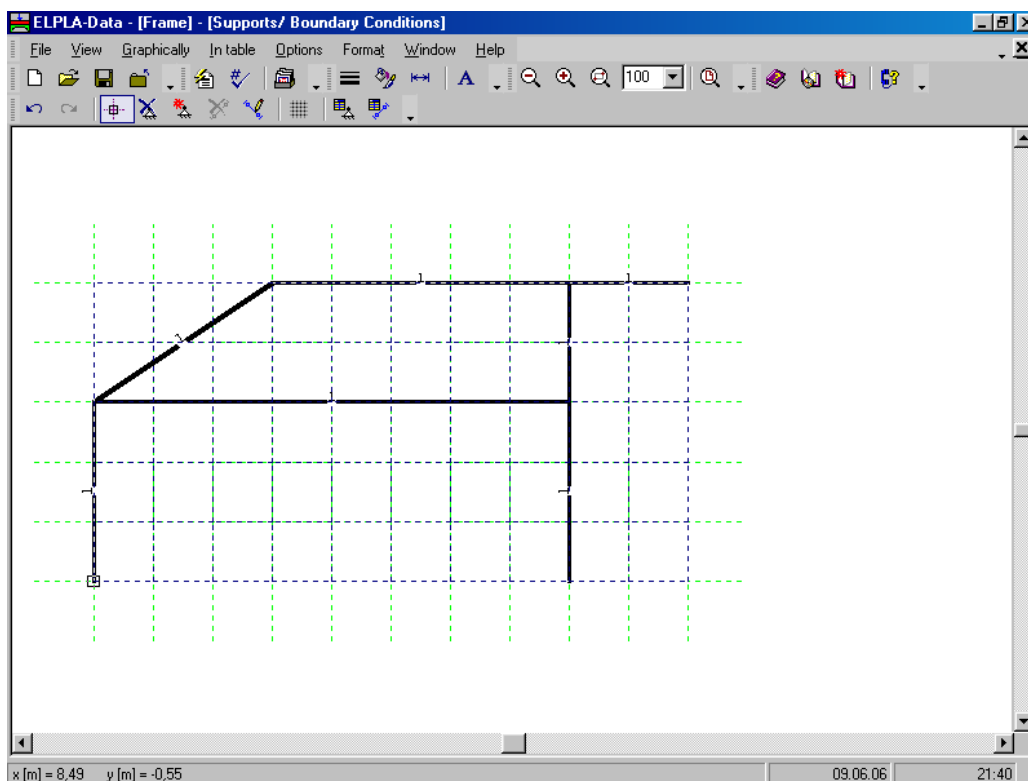
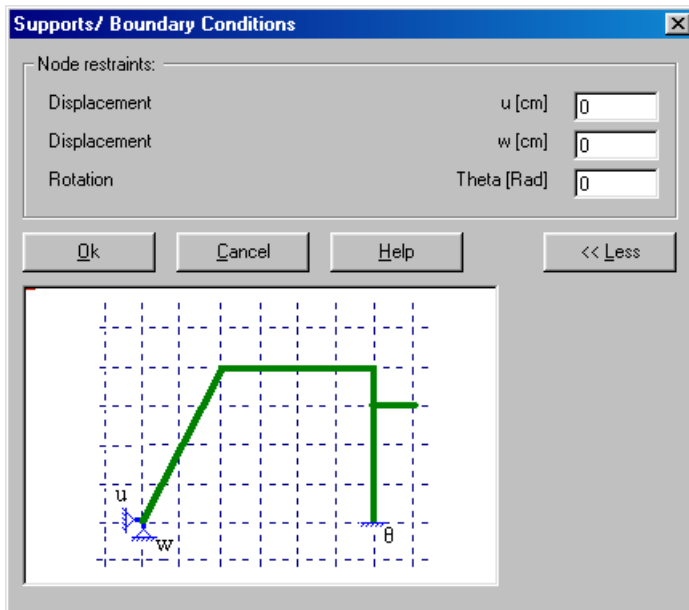

Figure 7-21 Selection of fixed support node
Figure 7-22 "Supports/ Boundary conditions" dialog box
- Click the left mouse button on nodes that have the fixed supports as shown in Figure 7-21
- Choose "Add boundaries" command from "Graphically" menu in Figure 7-21. "Supports/ Boundary conditions" dialog box in Figure 7-22 appears